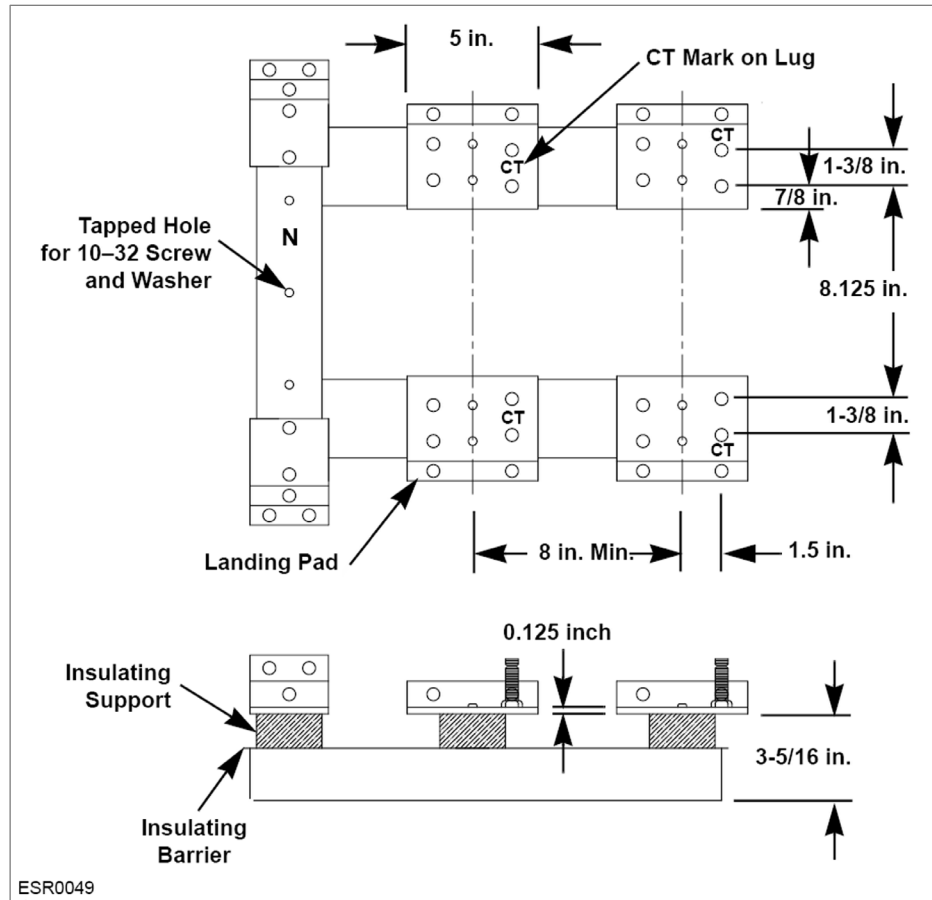
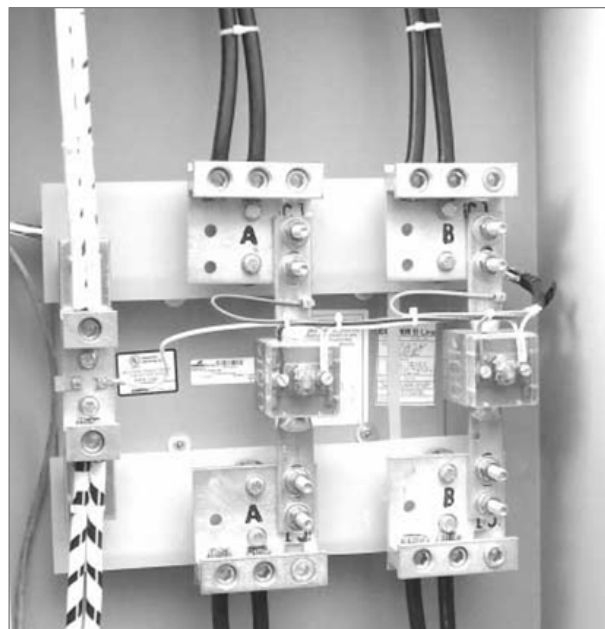

Figure 86: Transformer Mounting Base for Installation in a CT Cabinet, Single-Phase, 3-Wire, 800 A Maximum (EUSERC 328B)
Figure 87: Typical Single-Phase CT Installation
Figure 86 shows a transformer mounting base for installation in a current transformer (CT) cabinet, single-phase, 3-wire, 800 A maximum (EUSERC 328B). **Figure 87** shows a typical single-phase CT installation.